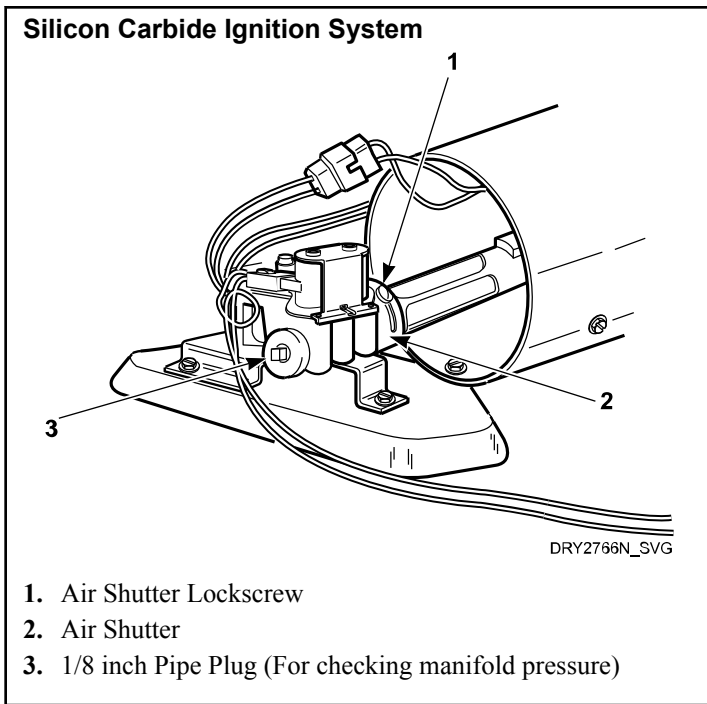
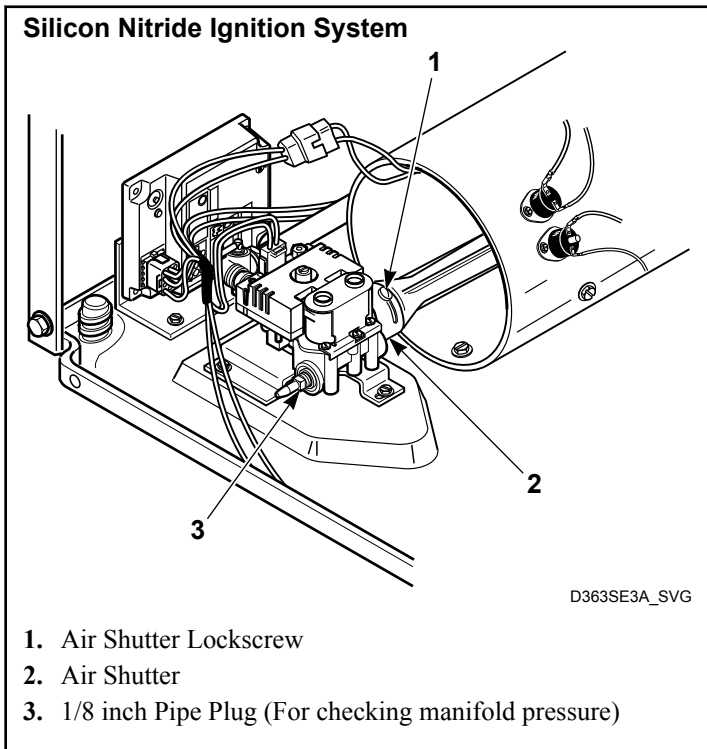

Figure 3
Figure 4
5. Allow the dryer to operate for approximately five minutes, then loosen the air shutter lockscrew. Refer to *Figure 3* and *Figure 4*.
7. After proper flame is obtained, tighten air shutter lockscrew firmly. Refer to *Figure 3* and *Figure 4*.